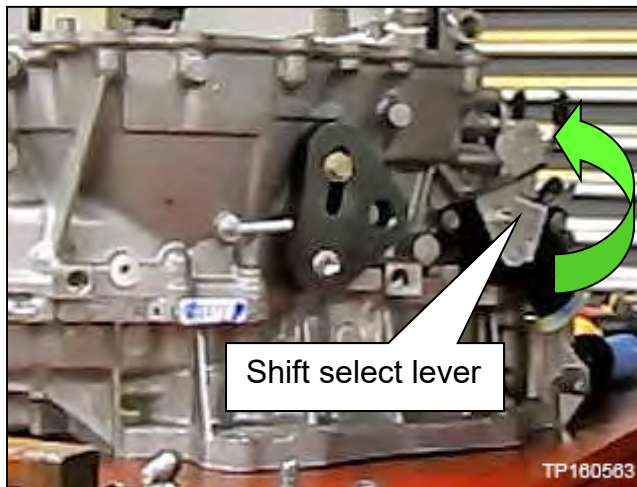
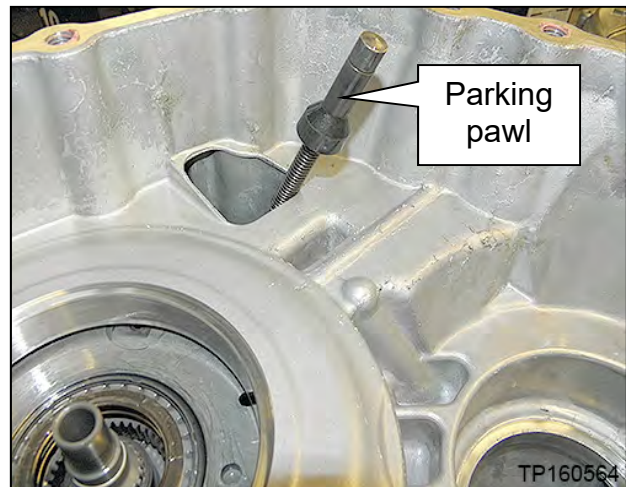

Figure 85
Figure 86
68. Rotate the shift select lever counter clockwise to the “L” range position (Figure 85), so that the parking pawl is at its lowest position (Figure 86).